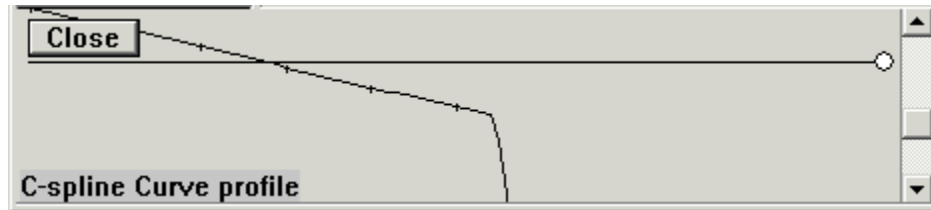

Fig. 40
- 14 **Zoom in on the Curvature Profile display a bit** again (Fig. 40).